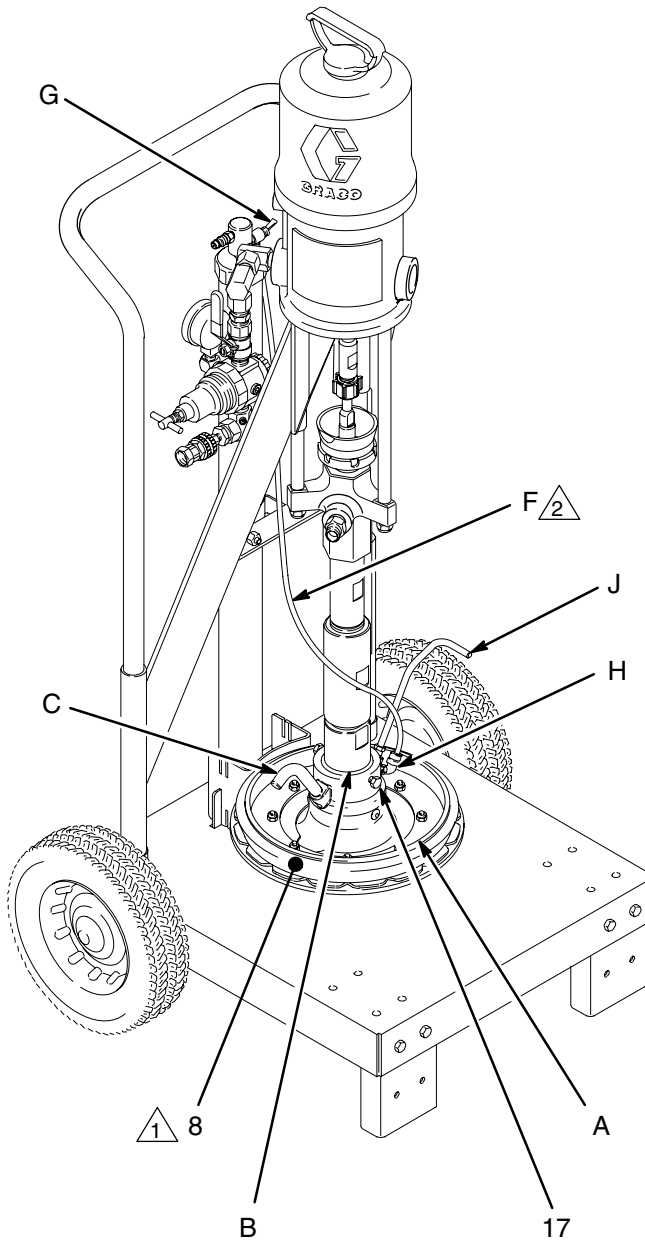

Fig. 13
Reference letters and numbers in the text refer to Figs. 13–16 and the Parts Drawing on page 16.
2. Install the wiper plate (A) onto the pump intake (B), with the wiper plate vent handle (C) facing the left of the cart. Secure by tightening the setscrews (17). See Fig. 13.